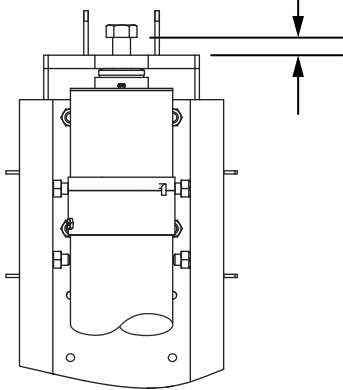

Figure 10 - Lift Bracket/Platen Assembly Installation on Stile and Jack
1. Use four $\frac{5}{8}$ " x $1\frac{1}{4}$ " hex head cap screws to bolt a lift bracket/platen to each stile. See Figure 10 on page 20 for all steps in this procedure.